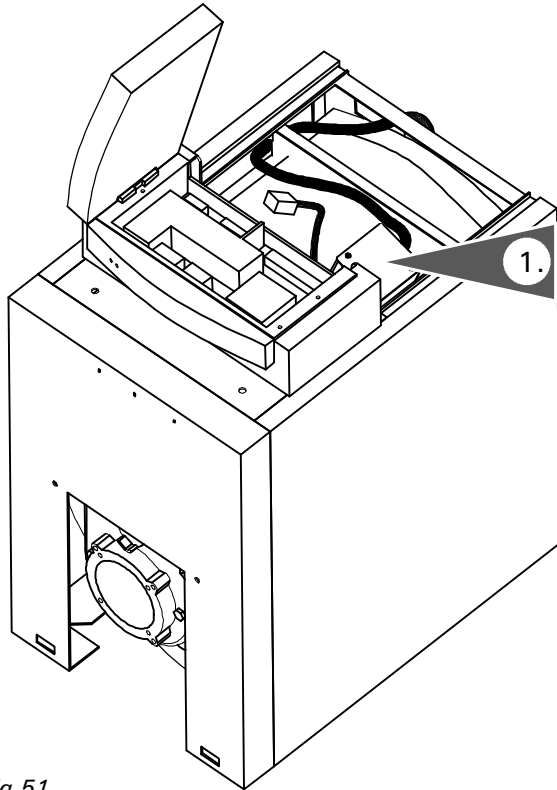

Fig 51
2. Connect the 20 RAST-5 plug-in connector of the Pump Junction Box to the main circuit board of the control, as shown in Fig. 51.
3. Feed the power supply cabling of the system pump through the opening at the back of the boiler and connect to terminals in pump junction box (See Fig. 51).